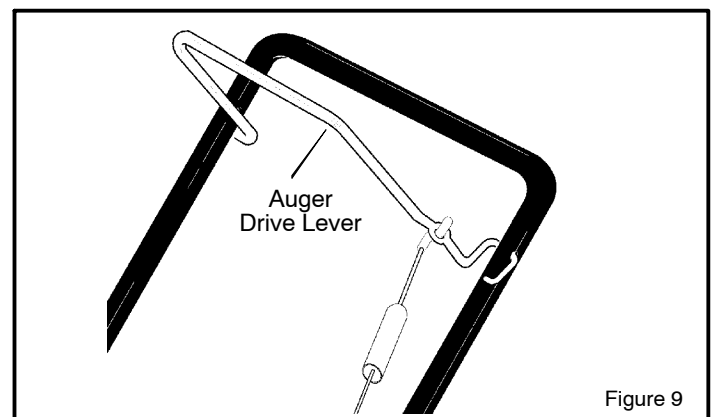

Figure 9
1. To stop throwing snow, release the **auger drive lever**. (See Figure 9).
1. Engage the **auger drive lever**. (See Figure 9).
1. Hold the **auger drive lever** against the **handle** (See Figure 9). The auger will begin rotating.